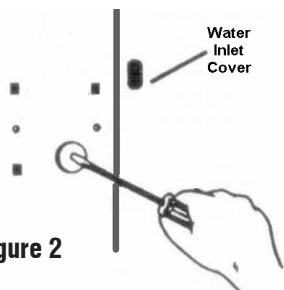

Figure 2
3. This icemaker is for pre-wired refrigerator / freezers, if your refrigerator / freezer is not prewired, please contact your dealer for the correct icemaker unit. Most prewired units have protective plugs and covers over the water and electrical connections. Using a screwdriver or putty knife, gently remove these plugs (see Figure 2). Typically the electrical harness cover is attached with a 1/4" hex head screw, remove this cover also. Check the electrical connection in this icemaker to make sure that the connector is the right one for this refrigerator, if not contact your distributor for the correct icemaker.